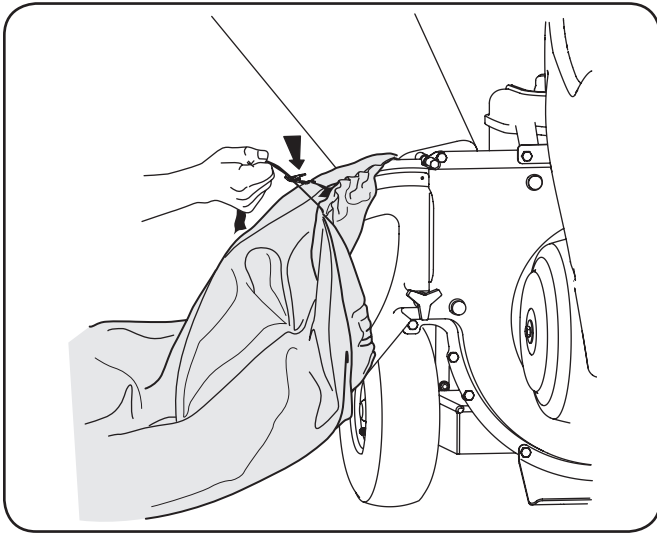

Figure 5-1
2. Squeeze the locking buckle to release the bag's drawstrap before loosening it from the chute deflector. See Figure 5-1.